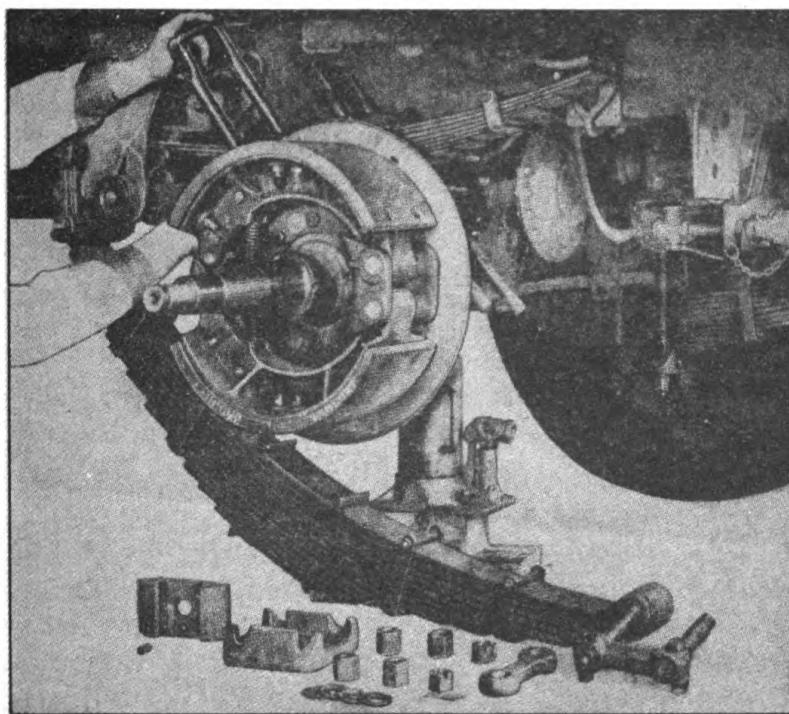

FIGURE 59. SPRING REMOVAL
1. REMOVING MAIN SPRING (Figure 59).—